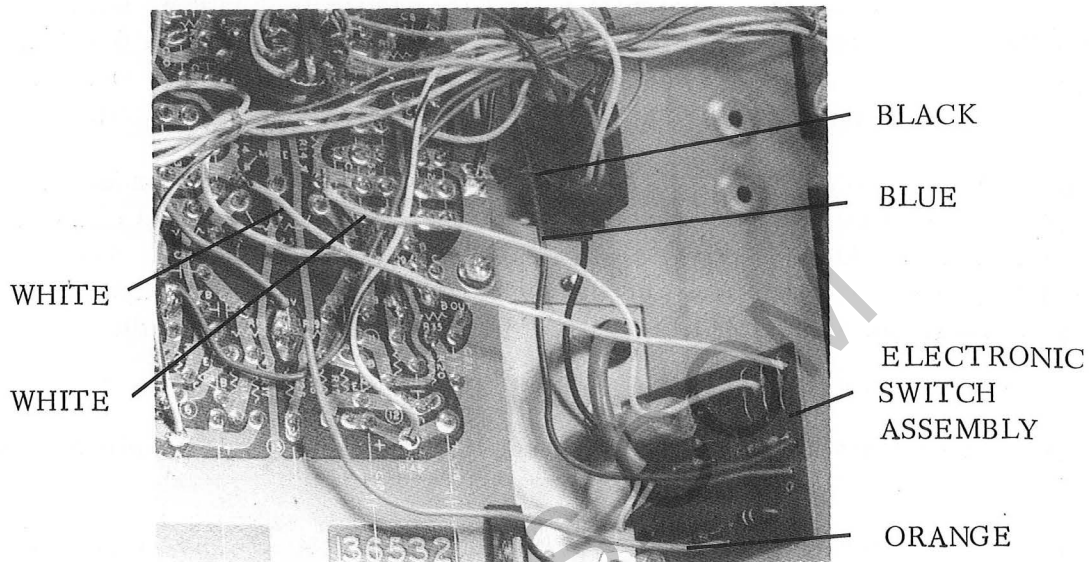

Figure 2.
- a. Connect and solder ORANGE wire to printed board as shown in Figure 2.
- b. Connect and solder two WHITE wires to printed board as shown in Figure 2.
- c. Connect and solder BLACK wire to printed board as shown in Figure 2.